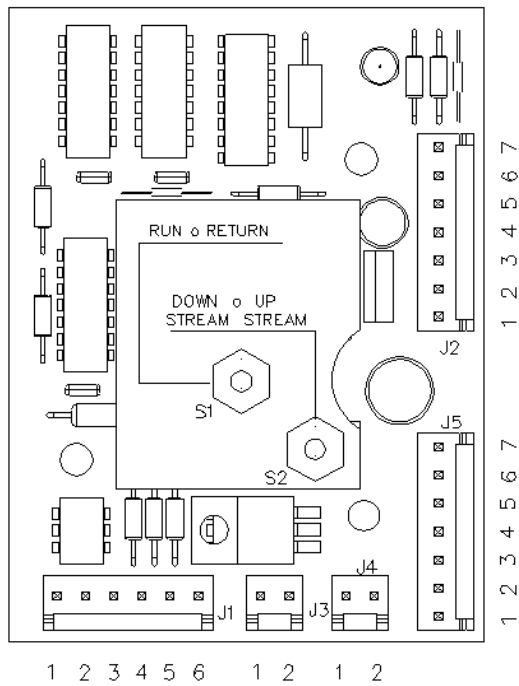

Figure 2-3. 12V Prover Interface Board
There are two (2) different styles of interface boards: 12V DC and 12/24V DC. See Figure 2-3 and 2-4. The power required for the interface board is supplied through the control cable. The DC power source is typically located in the control room or can be supplied from the operating computer if so equipped. See the electrical schematic provided with the prover documentation package for proper connections of the control cable.